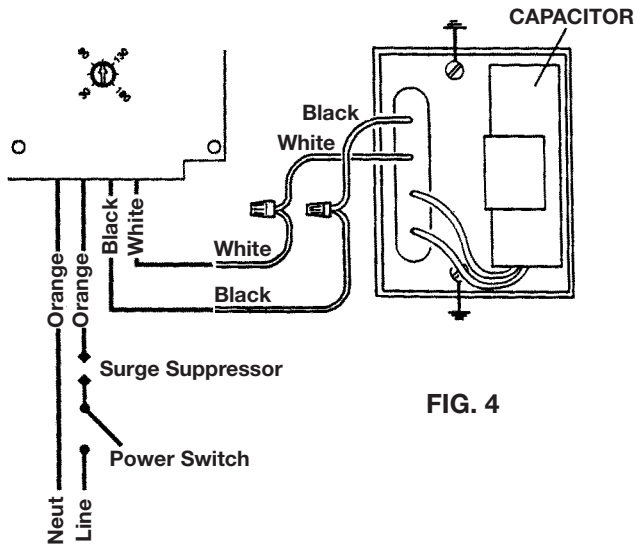

FIG. 4
- Make the electrical connections according to the wiring diagram provided (See Fig. 4). Route the power wiring through one of the 7/8" diameter holes in the steel conduit box. The control or sensor wiring must pass through the 7/8" diameter hole in the plastic enclosure.